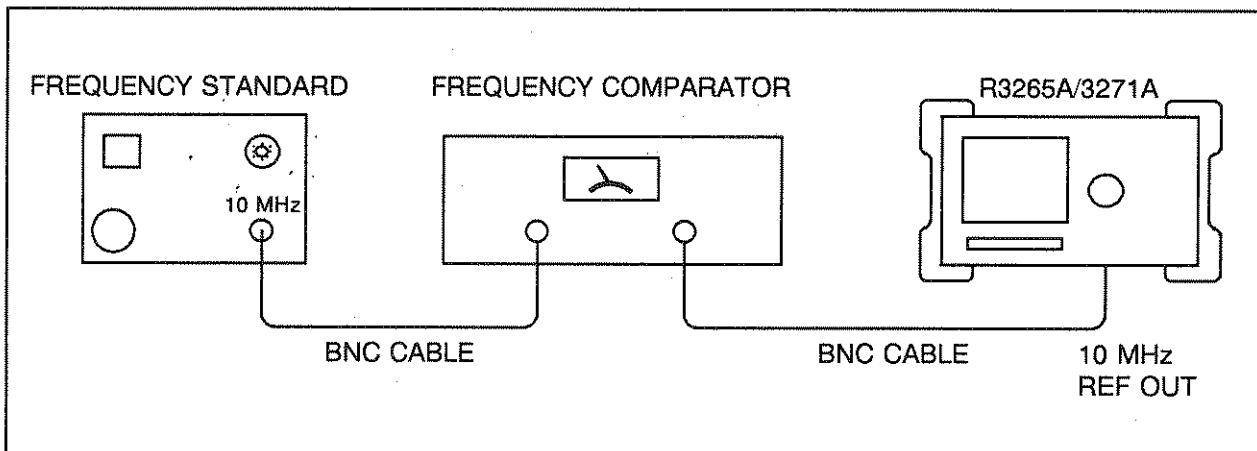

Figure 5-14 10 MHz Frequency Reference Adjustment Setup
- (1) Connect the equipment as shown in Figure 5-14.
- (2) Set the 10MHz REF of the R3265A/3271A to INT.